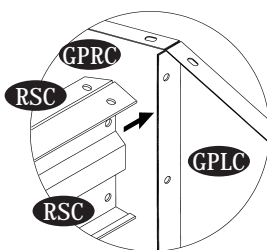

Fig.1
6. Insert the one end of the roof structure assembly to the Gable panel. The Gable panel should go in between the roof structure assembly. Secure with (S3) bolt and nut. Continue the same for the other end. See fig.1 & 2